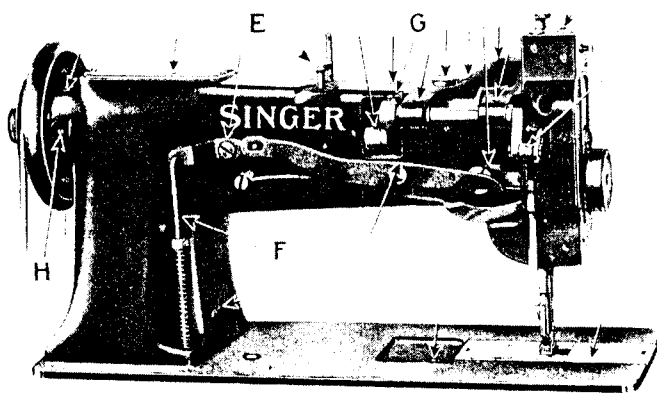
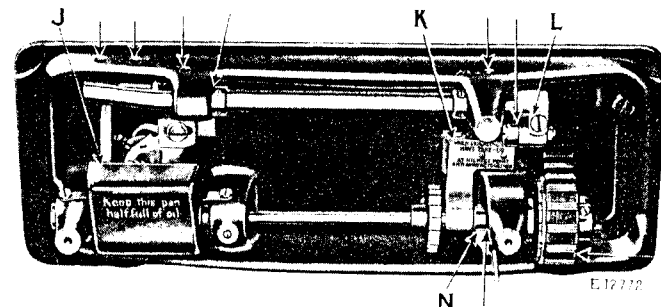

Fig. 14. Rear View of Machine
Fig. 15. Base of Machine
To increase the pressure, turn the thumb screw (E, Fig. 14) at the back of the machine, downwardly. To decrease the pressure, turn this thumb screw upwardly.
Turn the machine back on its hinges and apply oil at the places designated by arrows as shown in Fig.15, and all other
When the machine is received from the factory, half fill the oil pan (J, Fig. 15) with Singer Manufacturing Sewing Machine Oil. This oil should be changed at least once each week to ensure proper lubrication. Oil should also be applied at the top of the hook saddle from whence it will drop into the oil pan to lubricate the gears and shaft.
If the distance between the vibrating presser bar and the lifting presser bar is more or less, insert a screwdriver in the hole (F, Fig. 14) at the rear of the machine and loosen the screw therein. While this screw is loose, the needle bar frame can be moved forward or backward to the required distance. A piece of metal of the correct width may be used to determine the correct distance. When making this adjustment be sure to see that the feed regulating spindle head is set so that there is no feeding movement of the needle bar. When the adjustment has been made, securely tighten the screw at F.
The amount of lift of the vibrating and lifting presser feet should be regulated according to the thickness of the material being sewn. The feet should lift just high enough to clear the material. As a rule, the vibrating and lifting pressers should lift an equal height, but some grades of work may require that they lift an unequal height. To change the relative lift of the presser feet, loosen the screw (G, Fig. 14) at the back of the machine and move the presser bar upwardly or downwardly as required, then securely tighten the screw (G).
The feed dog should be set so that when the needle is down it should be slightly in front of the center (toward the operator) of the needle hole. In case the needle does not enter the hole in the feed dog correctly, loosen the pinch screw (L, Fig. 15) and adjust the feed dog as required, then securely tighten the pinch screw (L).
Remove the face plate and needle bar rock frame, then loosen the clamp screw at (F, Fig. 14) and draw out the rock shaft.
Slide the connection belt off lower pulley (M, Fig. 15); remove the feed regulating spindle head and balance wheel; loosen the arm shaft bushing screw (H, Fig. 14) at the back of the arm and remove the bushing; lift the belt up through the arm cap hole as far as possible and draw it out through the space normally occupied by the bushing.
Owing to the fact that the sewing hook makes two revolutions to one revolution of the hook shaft, and that the feed lifting eccentric is on the hook shaft, it is possible to have the sewing hook correctly timed without having the feed correctly timed. To overcome this, the plate (K, Fig. 15) is attached to the underside of the bed of the machine. This plate is marked with an arrow at its lower end and directly alongside of the plate is the collar (N, Fig. 15) mounted on the hook shaft, which is also marked with an arrow. When replacing the belt, replace the arm shaft bushing and securely fasten it in position by the screw (H, Fig. 14) at the back of the machine; replace the feed regulating spindle head and the balance wheel, and place the belt on the upper pulley, and then turn the balance wheel over toward you until the thread take-up lever is at its highest point. Then turn the hook shaft with the fingers until the two arrows, one on plate "K" and the other on collar "N", are directly in line. Now without disturbing either the arm shaft or the hook shaft, slip the belt over the lower pulley (M, Fig. 15). The feed will then be correctly timed with the needle bar.